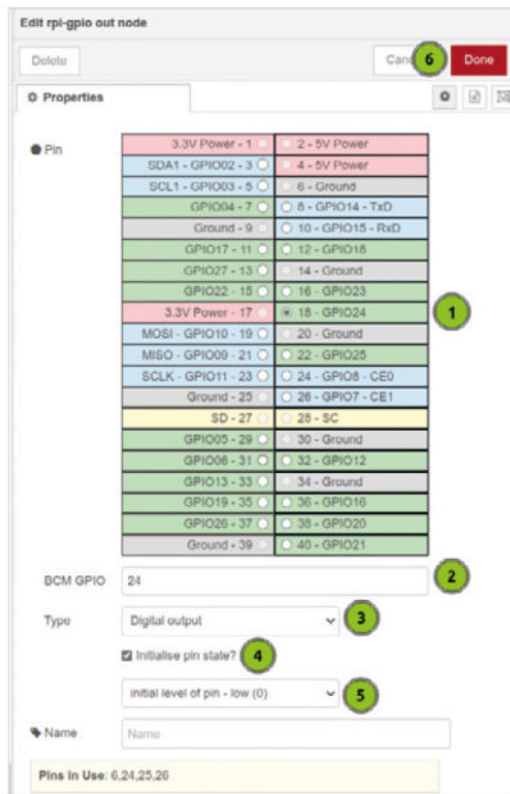

Figure 4: How to set up the GPIO pins in Node-RED
From the Raspberry Pi nodes, select `rpi-gpio` and add it to the flow. Double-click it to change the settings: pin needs to be 18 - GPIO24, BCM GPIO should be 24, type is Digital output, initialise pin state should be ticked, and initial level of pin should be low (0). You can double-check the settings next to **Figure 4** and, once you're happy, click Done. Repeat this for GPIO25, 26, and 06.